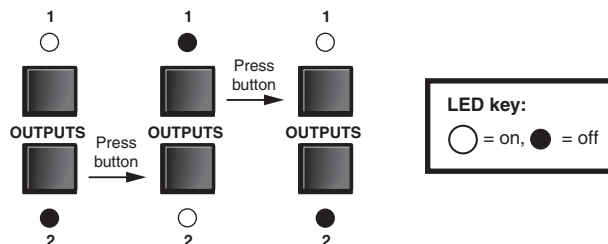

Figure 3-3 — Output selection cycle
- ② **Output 1 and Output 2 buttons** — The Output 1 and Output 2 buttons select output 1 or output 2. Press an output button to select that output and automatically deselect the other output (figure 3-3).
Output 1 and 2 LEDs — The Output 1 and Output 2 LEDs indicate the output that is selected (figure 3-3). Only one Output LED can be lit at a time.